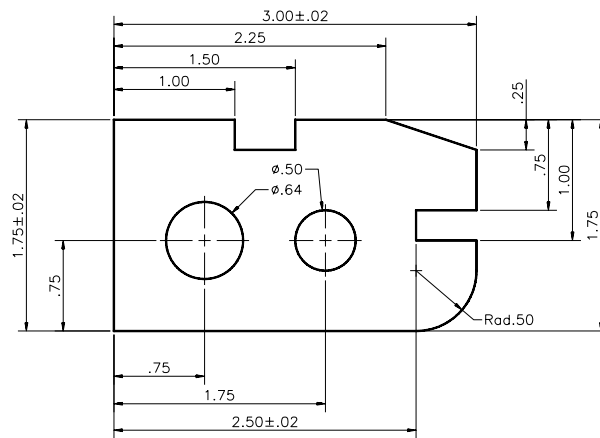

Figure 10-36 Drawing for Example 2
In this example, you will update the overall dimension (3.00) so that the tolerance is displayed with the dimension. You will also add linear dimensions, as shown in Figure 10-36.
6. Draw the remaining two linear dimensions. They will automatically appear with the tolerances, see Figure 10-36.